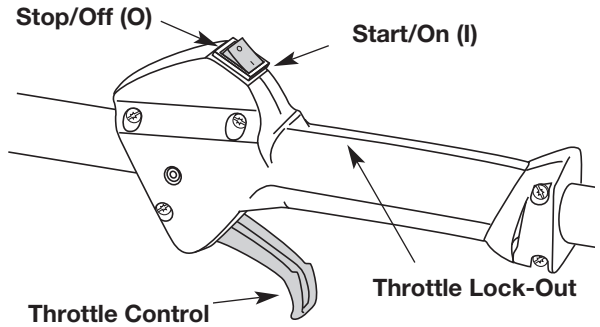

Fig. 19
NOTE: There is no need to turn the unit on. The On/Off Stop Control is in the ON (I) position at all times (Fig. 19).